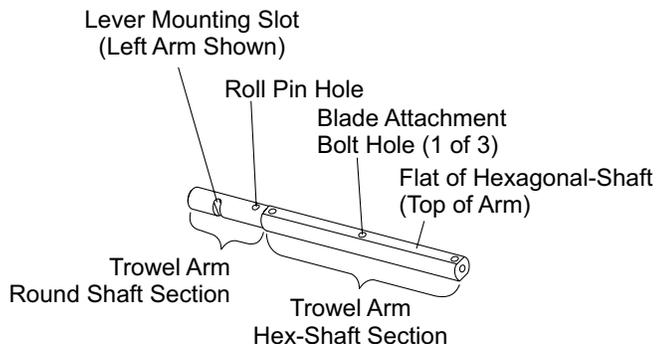
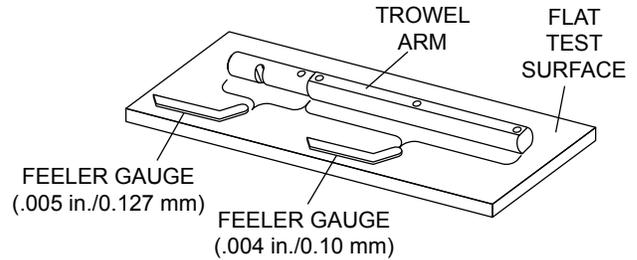

Figure 43. Trowel Arm
Figure 44. Checking Trowel Arm Flatness
Trowel arms can be damaged by rough handling, (such as dropping the trowel on the pad), or by striking exposed plumbing, forms, or rebar while in operation. A bent trowel arm will not allow the trowel to operate in a smooth fluid rotation. If bent trowel arms are suspect, check for flatness as follows, refer to Figure 43 and Figure 44:
2. Check each of the six sides of the trowel arm (hex section). A feeler gauge of .004 in. (0.10 mm) should not pass between the flat of the trowel arm and the test surface (Figure 44).